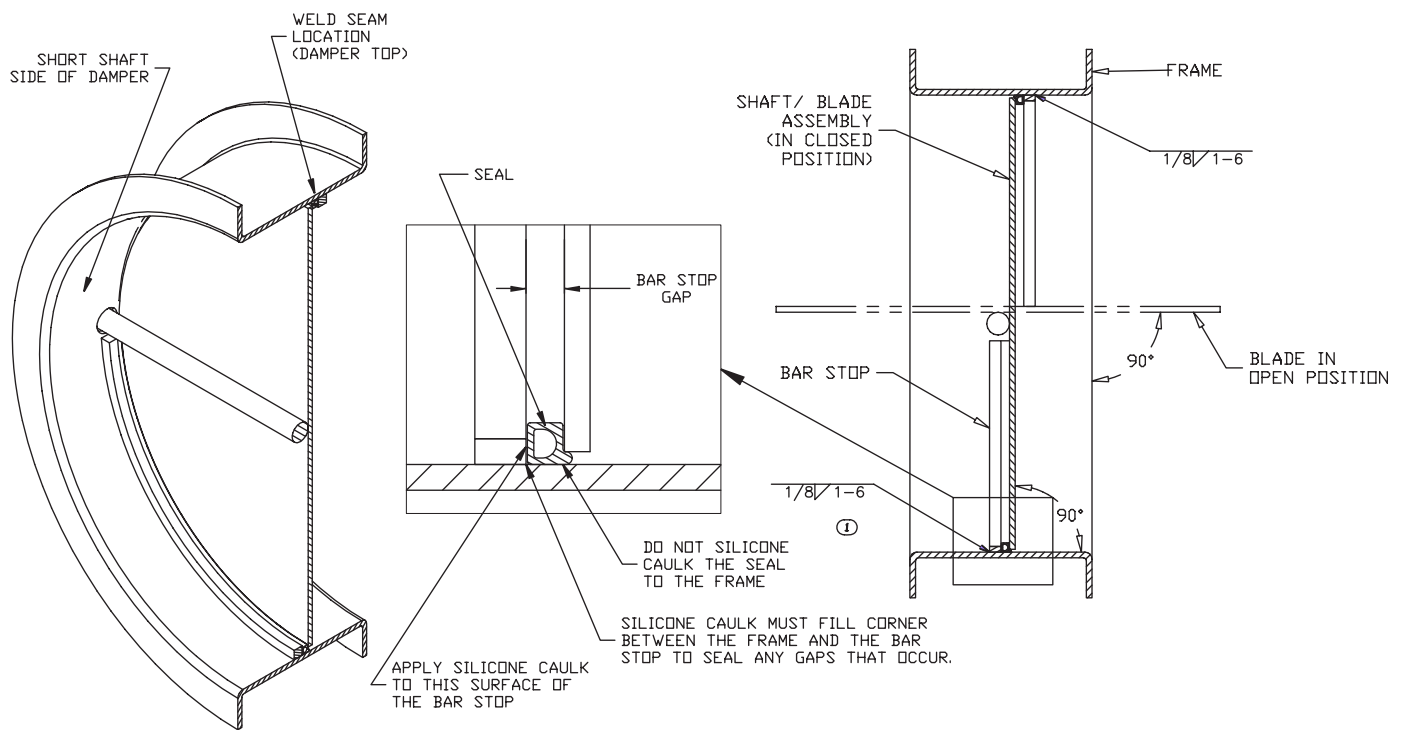

Figure 1
- 3) Replacement seal is either approximately square or “D” shaped. The flat surface of seal is to be oriented against the rolled bar stop and is to be located along perimeter. See **Figure 1**.